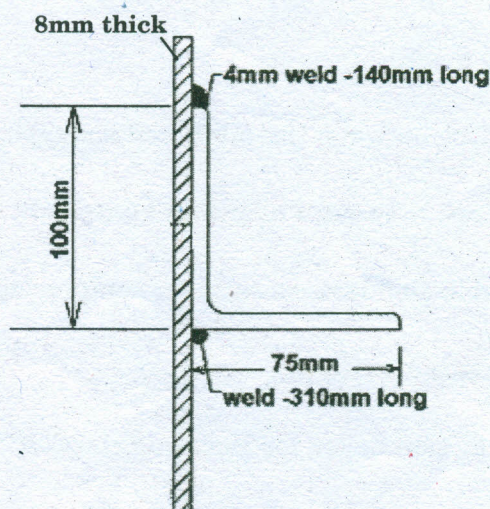

Fig. 2.
12. (a) Determine the tensile strength of a roof truss diagonal ISA 100 × 75 × 6 mm ($f_y = 250$ Mpa) connected to the gusset plate by 4mm welds as shown in Fig. 2. (16)